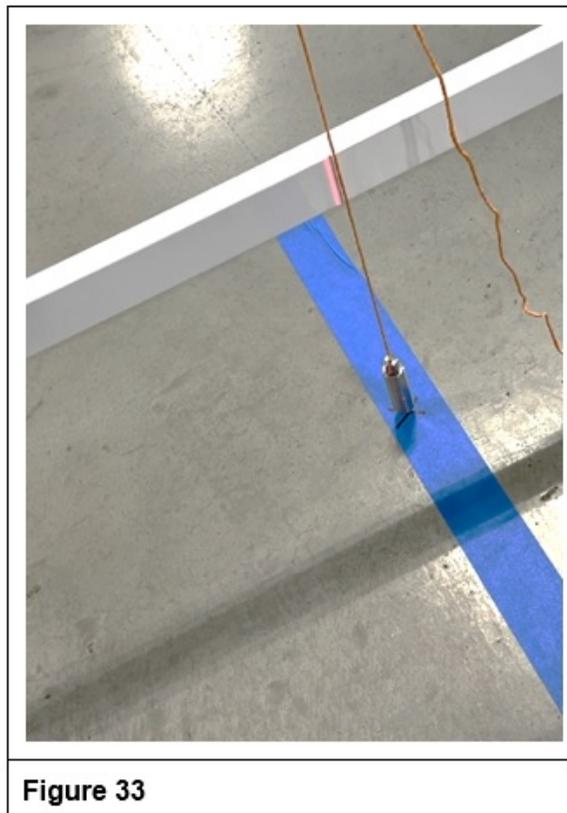

Figure 33
42. Ensure that the middle of the target is still 7,650 mm (+/- 20 mm) from the vehicle's front bumper cover. Adjust the target as necessary. Apply about a 2-foot length of masking tape to the floor centered under the Plumb Bob point, running lengthwise with the laser beam. Mark the masking tape with an X directly underneath the point of the Plumb Bob weight. (See Figure 33.)